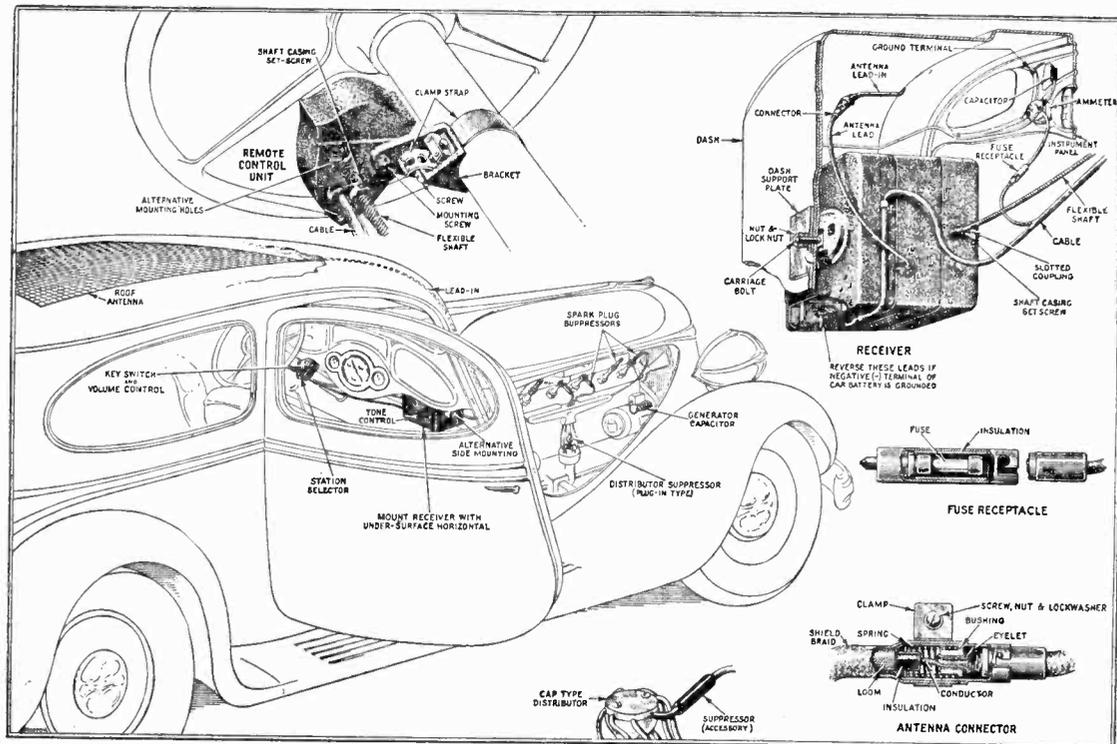

Figure 1
3. **CHECK POLARITY OF AUTOMOBILE STORAGE BATTERY SUPPLY.** If the negative (—) side is grounded to car frame, make changes to chassis connections shown in Figure 1. *Do not disturb these connections if positive (+) side is grounded.* (See details under "Mounting of Units"—page 5.) Replace case cover.
4. Determine most satisfactory mounting position (see details under "Location of Units"—page 4); spot mounting-bolt location and drill  $\frac{1}{2}$ " diameter hole. Insert bolt through dash and assemble support plate and nuts on engine side. Hang receiver over bolt head and tighten nuts. (See Figure 1 and details under "Mounting of Units"—page 5.)
5. Attach remote control unit to steering column by means of mounting bracket and strap. (See Figure 1 and details under "Mounting of Units"—page 5.)
6. Assemble flexible shaft to receiver and remote control unit. (See Figure 1 and details under "Mounting of Units"—page 6.)
8. Connect terminal at end of black lead from cable to binding-post of automobile ammeter (see Figure 1 and details under "Connections"—page 7). The ignition by-pass capacitor (equipped with two leads) should be installed at this time. (See Figure 1 and paragraph 4 under "Suppression of Ignition Interference"—page 7.)
9. Install spark-plug and distributor suppressors; also generator by-pass capacitor (see Figure 1 and paragraphs 1, 2 and 3 under "Suppression of Ignition Interference"—page 7).
**Details of mounting the various units are shown in Figure 1.** The following procedures are recommended:
**NOTE**—At this point, it will be advisable to determine the electrical polarity of the storage battery supply. This may be done most conveniently by making an examination of the battery connections and ascertaining which terminal is grounded (that is, connected to the frame of the car). The positive terminal is usually marked (+) and tends to form corrosion far more rapidly than the negative (-). If the positive terminal is grounded, no change in the electrical connections of the receiver unit will be required. However, if the opposite is true, the two leads (equipped with spade terminals) located beneath the radio chassis as shown in Figure 1 must be reversed.
**Remote Control Unit**—In attaching the remote control unit to the steering column of the car, it will be advisable first to examine the detailed view (in Figure 1) showing the assembly of its mounting bracket. Four small holes are contained in the associated flexible strap at distances proper for use with steering columns of the most common diameters (1 1/2, 1 3/8, 1 3/4, 1 7/8 inches) but the strap length will be found sufficient to permit the insertion of an additional hole, if necessary to accommodate a 2 inch column. The proper hole may be determined by wrapping the clamp strap tightly around the column, inserting the machine screw furnished through that hole found to be nearest in alignment with the tapped hole in the clamp bracket. Three tapped holes are provided in the back of the remote control unit, permitting support of that unit either at the right- or left-hand side or above the steering column.
**Receiver and Remote Control Units**—The arrangement of units shown in Figure 1 is recommended and will be found applicable to the majority of automobiles. Consideration should be given to the possibility of interference of the receiver with other equipment beneath the instrument panel or of the mounting bolt with apparatus on the engine side of the dash. By placing the receiver unit toward the right-hand side of the dash, the flexible shaft will be of correct length as furnished in practically all cases. This position, however, may be considered impractical because of its universal preference for bearing unit either near the center or at the extreme left-hand side of the dash and the use of a shorter flexible shaft. In such cases, the shaft may be either short-